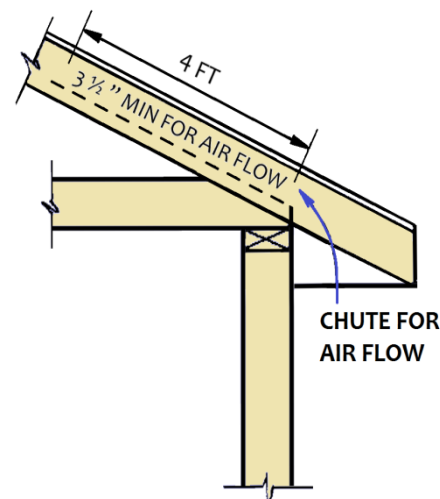
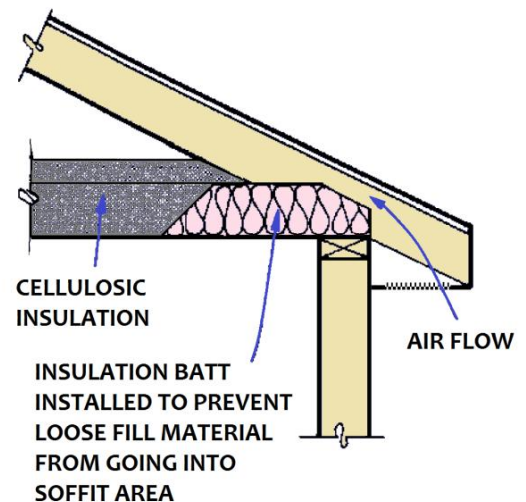

Figure 1B
Figure 2
- In joint areas, where soffit vents are installed, the opening from attic into the soffit area may be blocked by batt type insulation between and at the end of the joists (See Figure 2). Insulation should not totally fill the space between ceiling and roof. There should be at least 1 inch (2.54 cm) opening next to the roof for ventilation from the soffit area, a chute may be installed per Figure 1B.